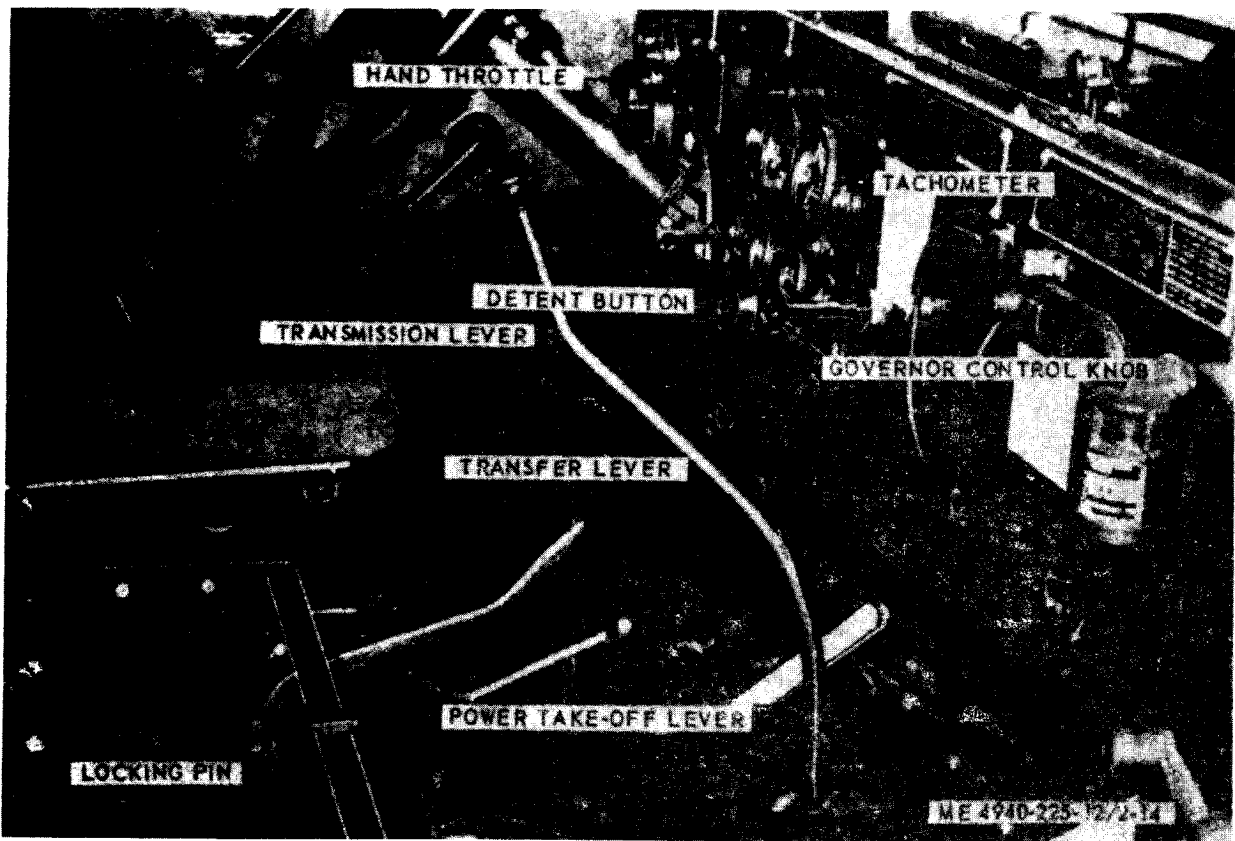

Figure 2-14. Operation of power take-off for dynamotor-toelder Model SEORLT.
(5) Set hand brake (fig. 2-14).
(6) Depress clutch and shift transmission lever to neutral position.
(7) With clutch depressed, shift transfer case lever to neutral position, pin lever and release clutch.
(8) Turn governor control knob counterclockwise to unlock, and depress detent button in the center of knob. Pull the governor control knob to a full "OUT" position and turn the governor control knob clockwise to lock.
b. Starting (fig. 2-14).
(1) Energize battery switch and start engine.
(2) Operate engine in accordance with manufacturers recommendation, until ambient conditions are reached.
(3) Depress clutch, shift transmission lever to fourth gear, and while slipping clutch, pull upward without undue force, on the power take-off lever.